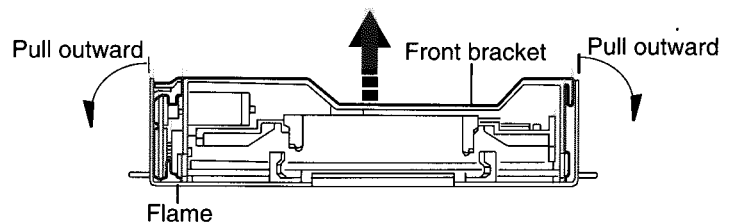

Fig.4
3. Remove the four ribs **a** securing the front chassis assembly to the chassis. (See fig 4)